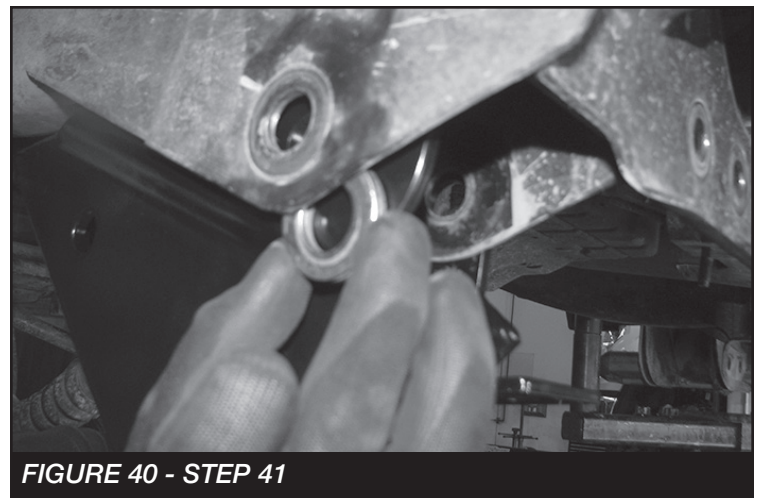

FIGURE 40 - STEP 41
41. From Bag 3, Locate the 3/4"-10 X 2" Bolt, 4 washers and nut. **NOTE: When installing the 3/4" bolt insert 2 washers between the factory bracket and the new Fabtech 4-link bracket.** Leave loose. **SEE FIGURE 40**